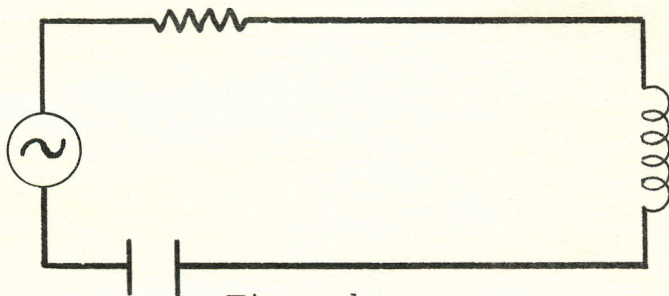

Figure 1
8. What is the total impedance in Figure 1?
9. Determine the phase angle between the voltage and current in Figure 1.